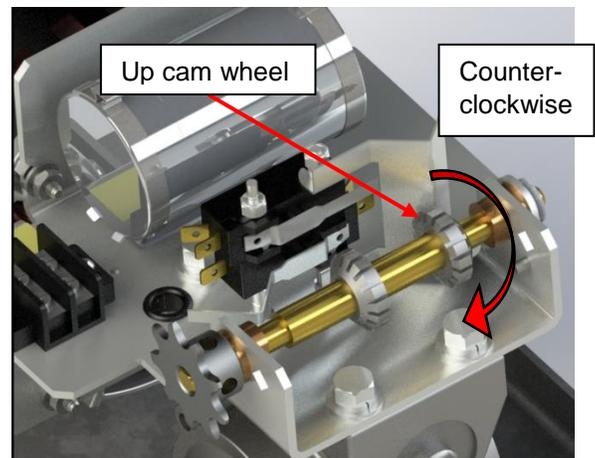

Figure 110
- 4) To reduce the amount of travel in the upward direction, turn the up cam wheel counter clockwise viewed from the cam plate as shown. (Figure 110) When turning counter-clockwise, for each cam wheels' lot travel (approx. 4°), the upper cover limit will be reduced by approximately 5/32 in. (4 mm).